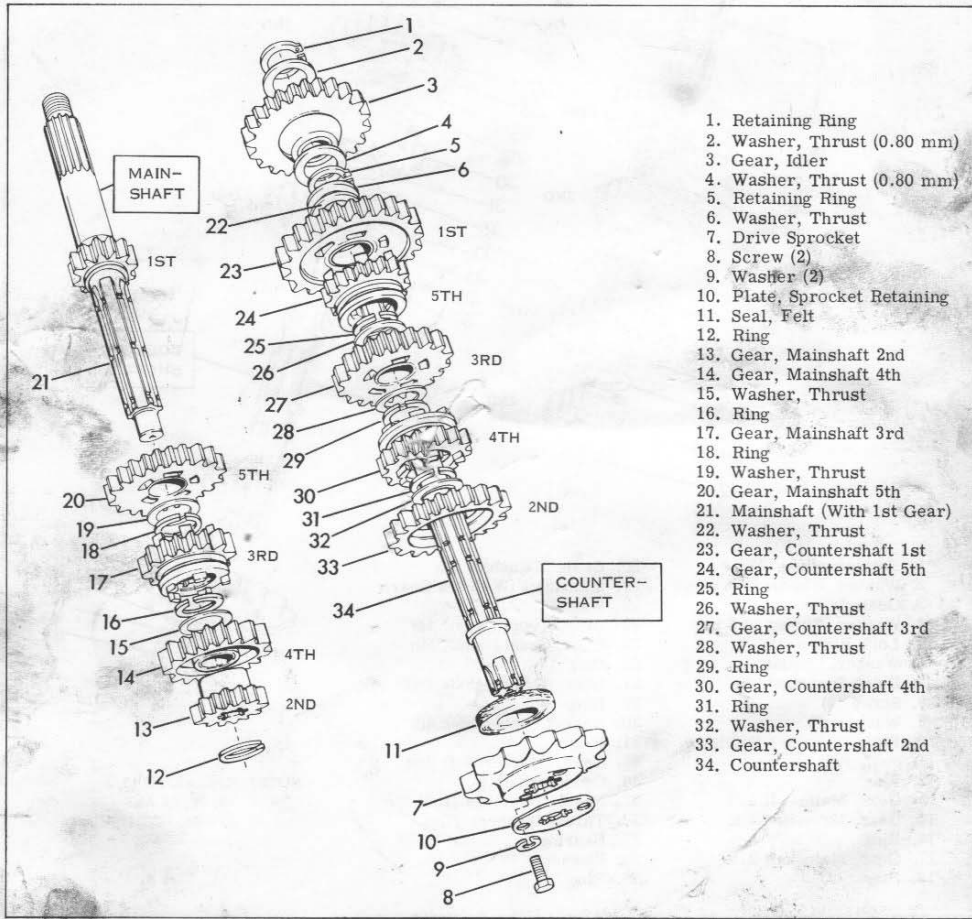
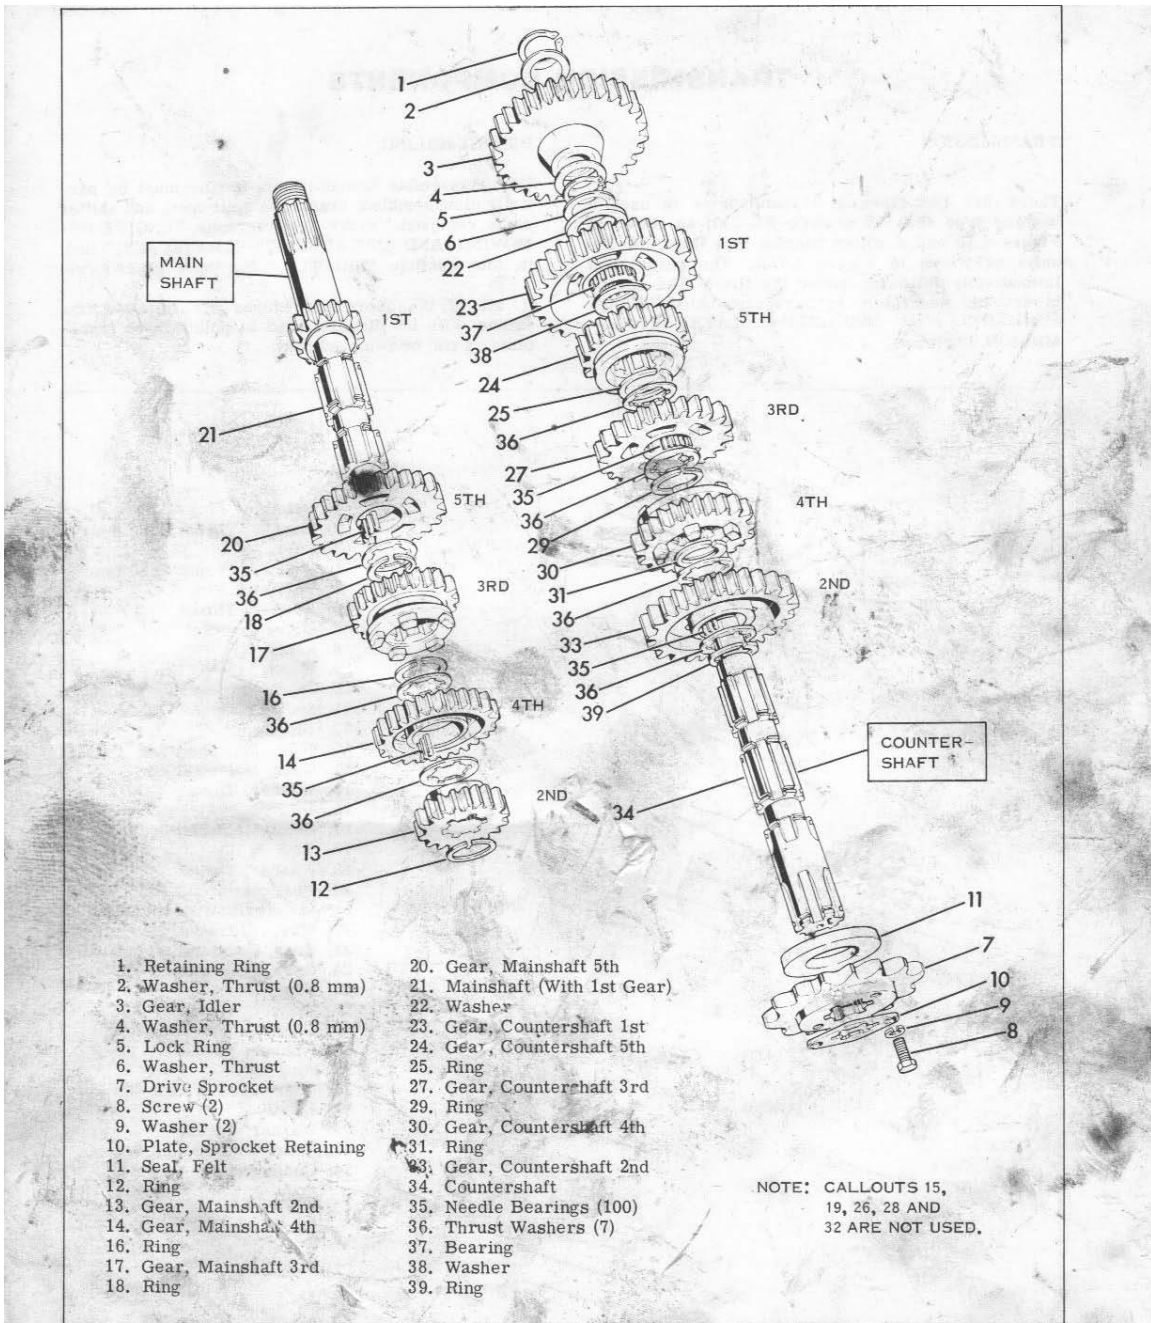

Figure 4.13. Exploded View of Transmission (Bushing Type)
Figure 4.13A. Exploded View of Later Transmission (SX-250, Roller Bearing Type)
through idler gear (3), Figure 4.13, on the counter-shaft. This permits engine to be started even when transmission is in gear, provided clutch is disengaged.
There are two types of transmissions in use: a bushing type (SX-175 & early SX-250) as shown in Figure 4.13 and a roller bearing type (later SX-250 only) as shown in Figure 4.13A. The paragraphs immediately following cover the first. The second is covered separately in paragraph titled "DISASSEMBLING AND ASSEMBLING LATER TRANSMISSION," below.
The transmission consists, basically, of mainshaft, countershaft, and associated sets of gears from 1st through 5th. Remove assembled main and countershafts together as follows. Reference will be made to both Figures 3.13 and 4.13 during following step. From outward side of right side crankcase (27), Figure 3.13, simultaneously tap out both mainshaft (21), Figure 4.13, and countershaft (34), Figure 4.13, from bearings (33) and (35), respectively, Figure 3.13. Tap each shaft end alternately so they both come out evenly at same time. Support assemblies by hand as they come out so they do not drop and become damaged.
Check the grooves in gears (17), (24), and (31), Figure 4.13, and make sure they make contact with the shifter fingers. The grooves should be smooth and free of irregularities.
Do this progressively, after placing each gear on shaft, in turn, from innermost to outermost ring until all gears, washers, and snap rings are in place as shown in Figure 4.13. Check clearances given in Table 4.6 during assembly. Note that variable thrust washers control spacing and end play.
The later transmission is taken apart and put back together using basically the same procedure as described in above paragraphs. The differences are in handling the bearings that are a part of this assembly. As shown in Figure 4.13A, there are five locations where bearings are used. Bearing (37) is a cage bearing, bearings (35) are loose, consisting of twenty-five bearing rollers at each location retained by special washers (36) and snap rings.